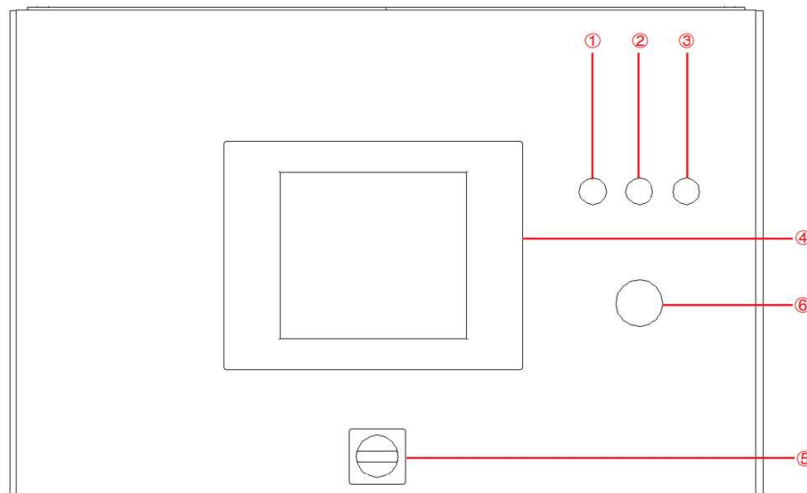

Figure 3-6 Front panel
Step 2: Turn the power knob counterclockwise (Figure 3-6⑤).